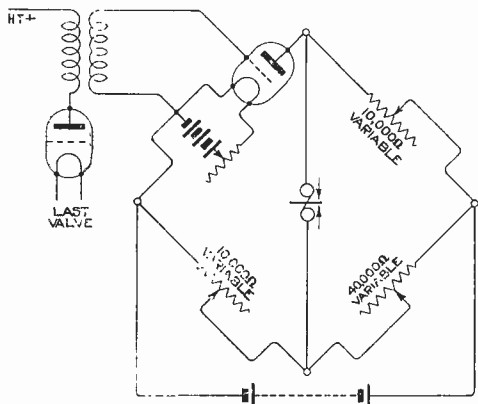

Fig. 1.
(1) The arrangement given in Fig. 1 will meet your requirements. The diagram is slightly modified to the arrangement and works very well indeed. (2) and (3) The coils of a Wheatstone bridge are usually doubly wound. The windings are wound